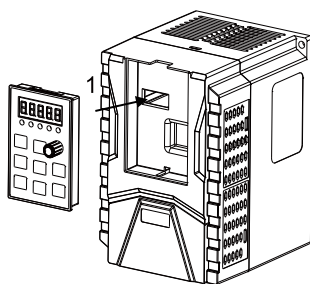

Fig 3-5 Keypad installation
B. Method of keypad installation is shown as fig 3-5: Flat the keypad into the keypad slot and press the keypad in direction 1 until you hear the 'clicking' sound, namely the keypad is flush with the front of machine surface.